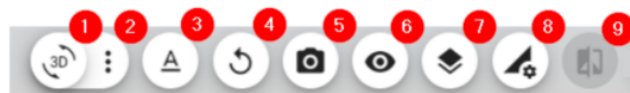

Figure 7: View settings of the 3D scene
4. View settings View settings at the bottom of the 3D scene are there for the general manipulation of 3D scene and selections and for displaying additional data. Features available you will find useful in all SCIA AutoConverter workflows. (Figure 7)